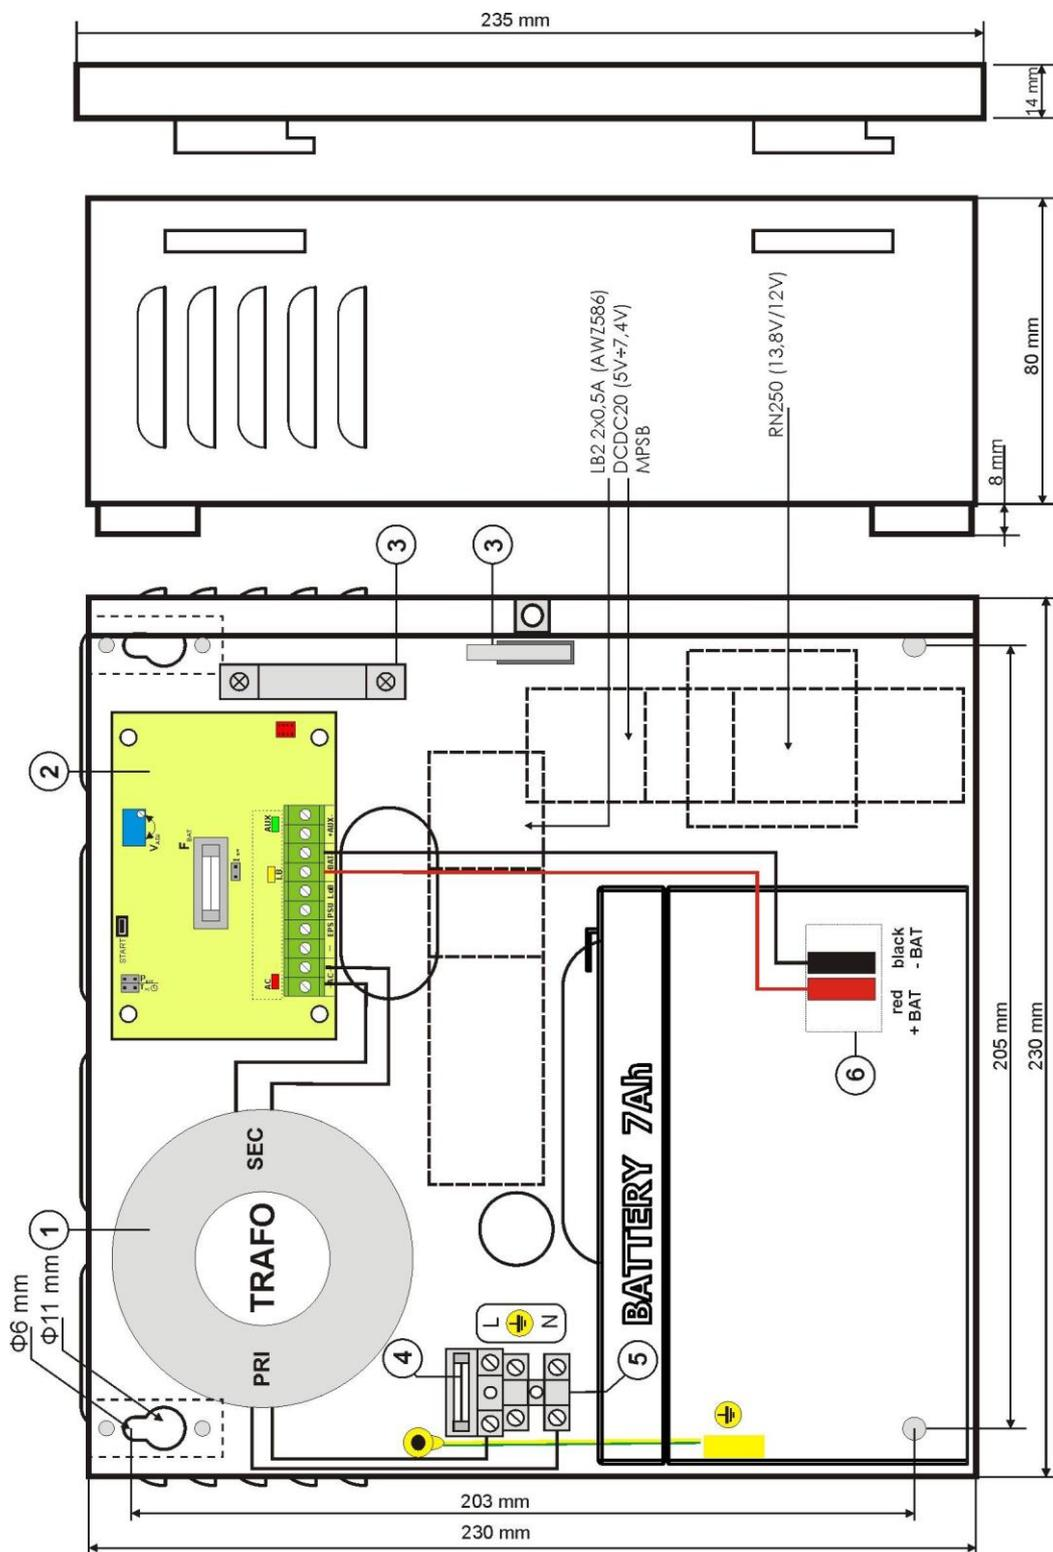

Fig.3. The view of the PSU.
**Table 2. Components of the PSU (See Fig. 3).**
8. Mount the battery in the battery compartment of the enclosure (Fig. 3). Connect the batteries with the PSU paying special attention to the correct polarity.